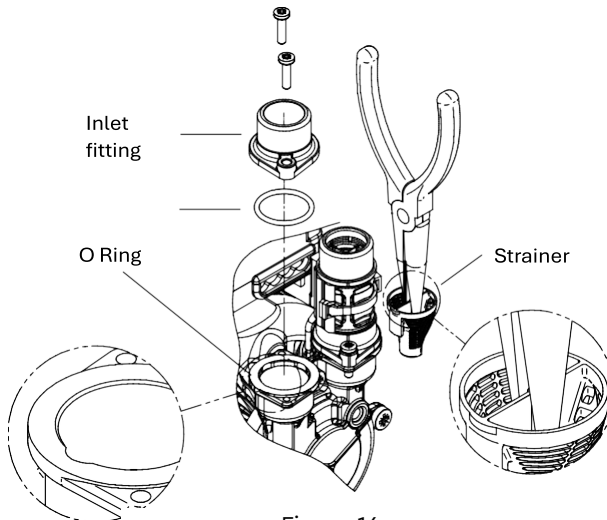

Figure 16
4. Remove M4 screws (2 off) from inlet assembly, lift brass inlet fitting (with 'O'-ring) away from pump casing (Figure 16).